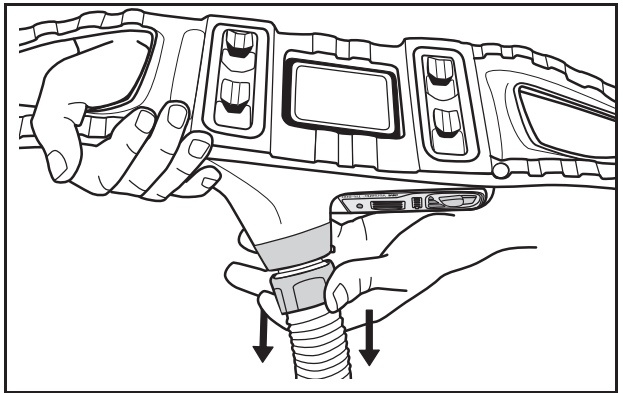

Fig. 12 Removing breathing tube
4. Removal: Turn the motor/blower upside down so that the outlet faces down (Fig. 12) to help minimize the potential for contamination of the outlet.